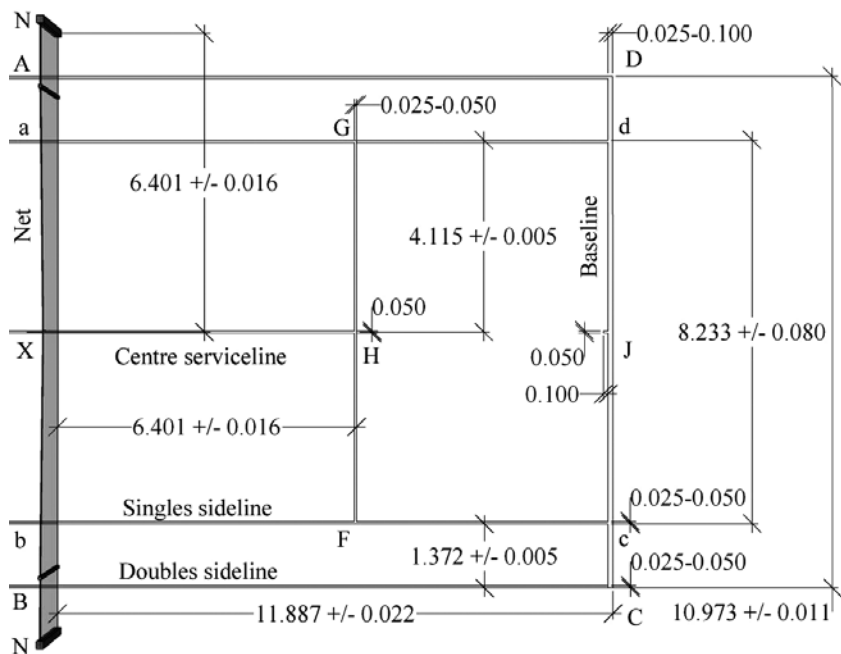

Figure 7. Plan view of half-court. All dimensions are given in metres.
1. Using the calibrated device, measure each of the distances listed in Table 5 (refer also to Figure 7). Follow the same procedure on both sides of the net to complete the court.